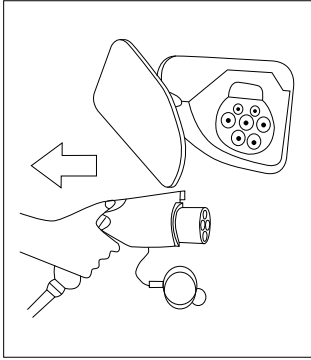

Figure 4
1. Press the button and disconnect the charging connector (fig. 4).